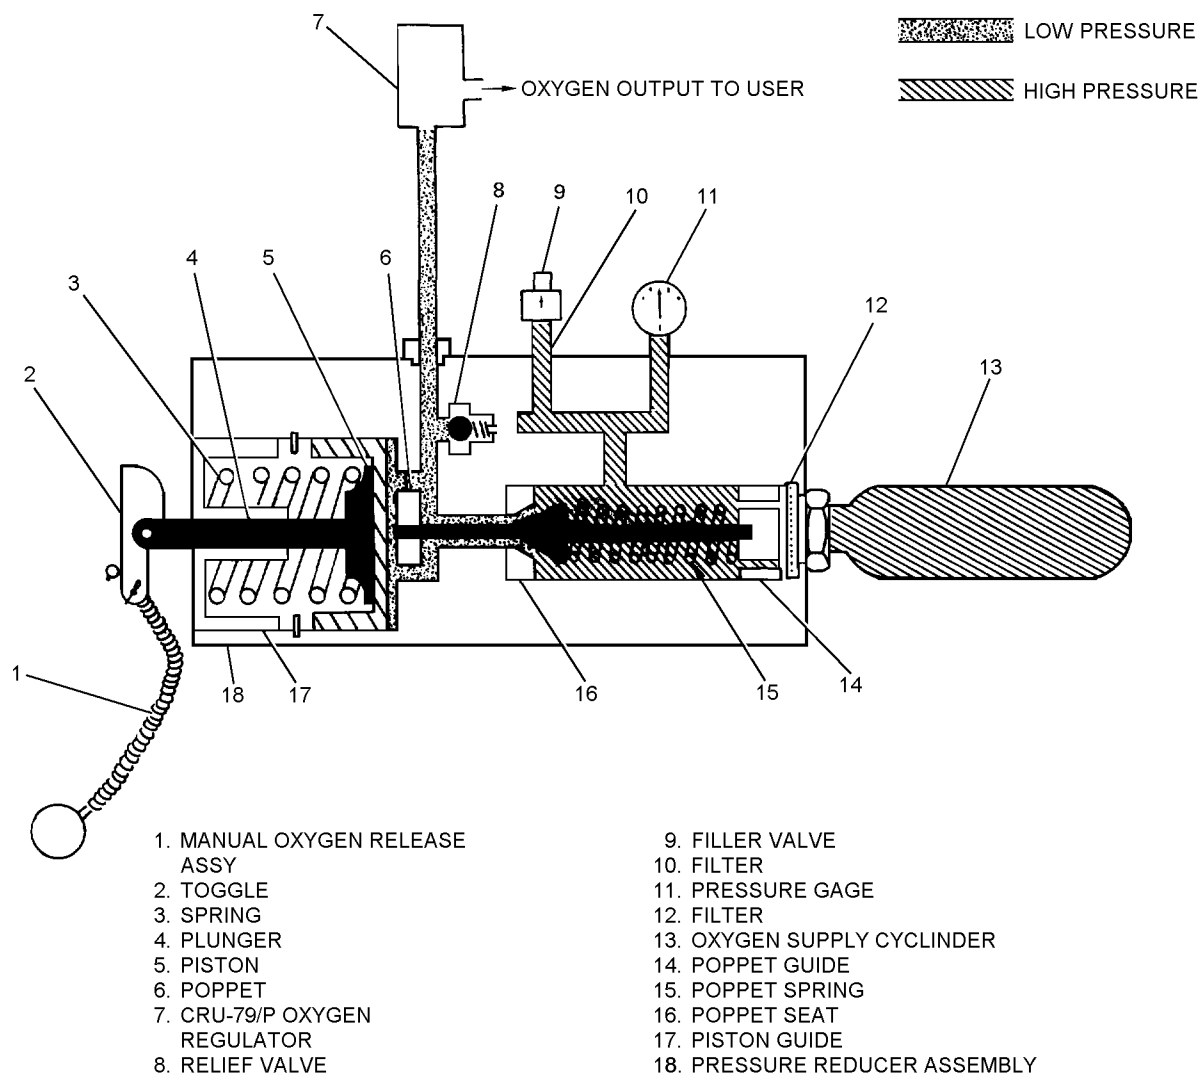

Figure 8-2. E-2C Emergency Oxygen System Functional Diagram
1. When an installed system is inactive (off), high pressure oxygen (1800 to 2000 psig, full) is present from the oxygen cylinder (13, figure 8-2) to the base of the poppet (6), and to the oxygen pressure gage (11). The oxygen pressure gage (11) indicates the amount of oxygen pressure available to the system at all times.